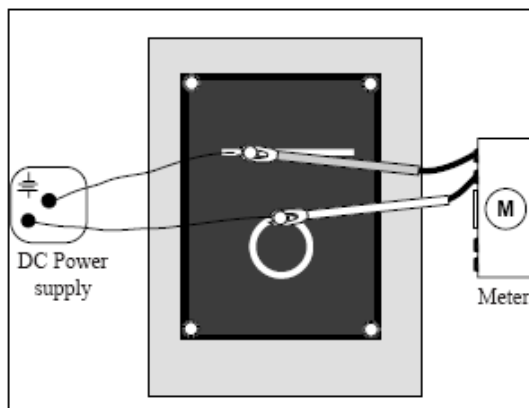

Figure 4
4. Connect the electrodes to a battery, DC power supply, or any other potential source in the 5 to 20 VDC range using the supplied connecting wires. (see Figure 4) The potential source should be capable of supplying 25 mA. (If possible, the potential should be equal to the full scale reading of the electronic voltmeter used in the experiment.)